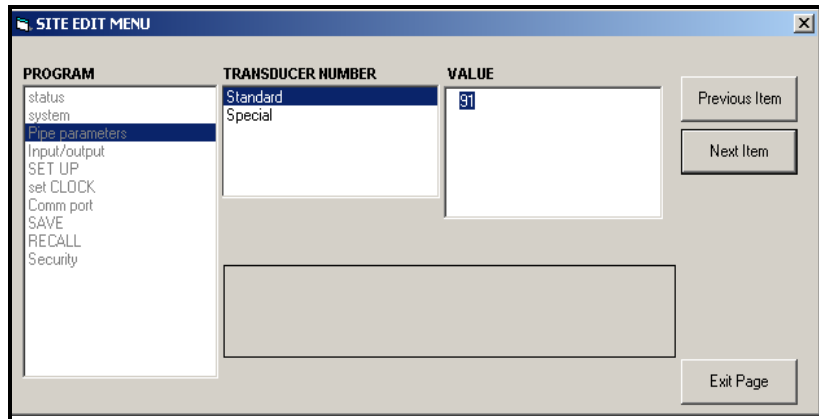

Figure C-21: Pipe Parameters Option in the Site Edit Menu
- a. Highlight and double-click on the desired option in the left pane. Figure C-21 below shows the first entry (Transducer Number) in the *Pipe parameters* option. The title above the center pane lists the current entry, while the center pane displays the available selections for that entry.